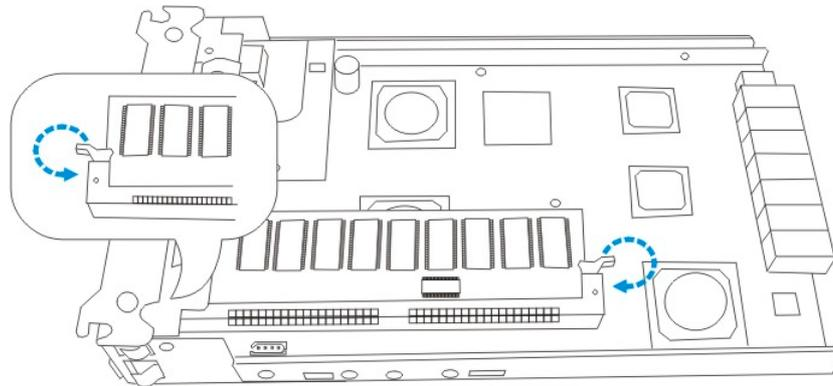

Figure 2-2: Push Back the White Clips on the Sides of the DIMM Module
Step 2. Remove the previously installed DIMM module from the DIMM socket. To do this, push the white clips on either side of the DIMM module in an outward direction. By doing this, the previously installed modules will be ejected from the DIMM socket. (See *Figure 2-2*).